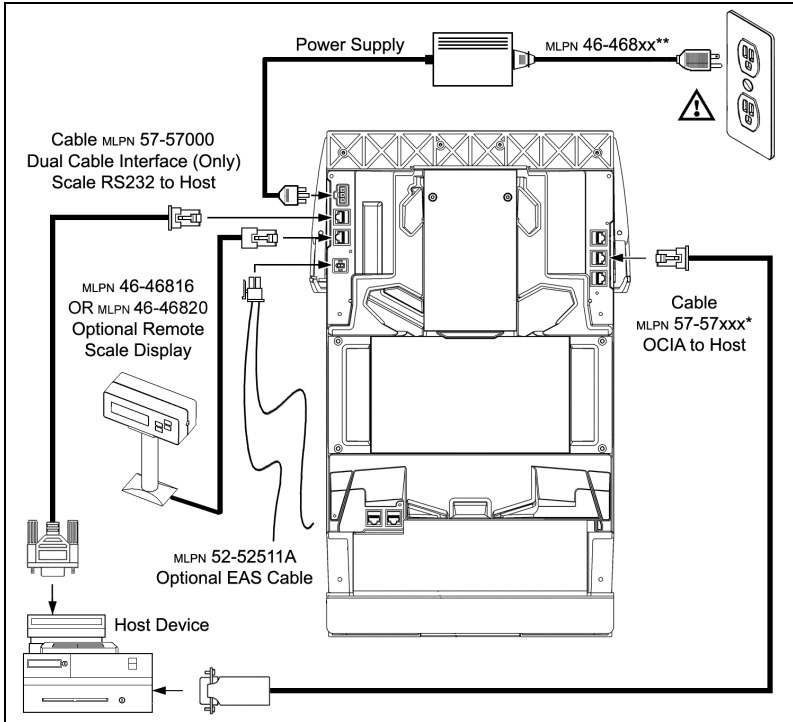

Figure 38. OCIA Cable Installation Schematic
2. Connect the OCIA interface cable to the 2nd 10-pin socket on the bottom of the scanner near the serial number label. Refer to figure 38 on page 45.
Connect the scale/host cable to the 1st 10-pin socket on the bottom of the scanner next to the 3-pin Molex plug. Refer to figure 38 on page 45.